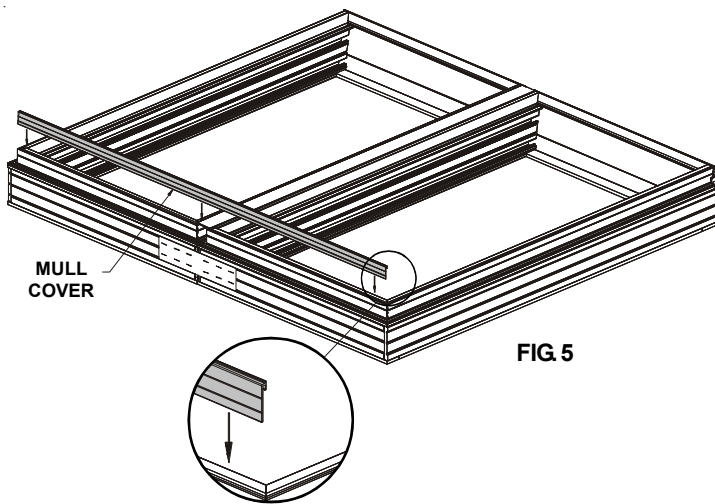

FIG. 5
- Attach mull cover to head of unit. Using a wood block and a hammer, carefully pound the mull cover into the accessory groove on the face of the unit until it is seated firmly against the cladding. See Fig. 5